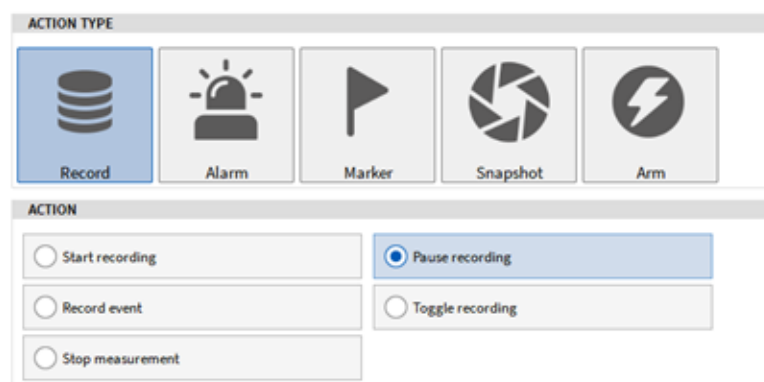

Fig. 9.30: Pause Recording Action Type
- Select *Pause recording* as *Action Type* (see Fig. 9.30):